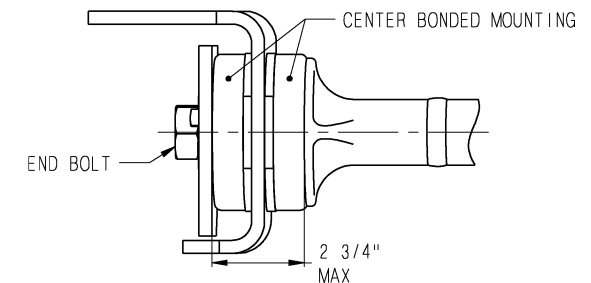

Figure 2
7. Verify the stack height of the center bonded mountings. Stack height should be 2 ¾” or less when the end bolt is fully torqued. (See Figure 2)